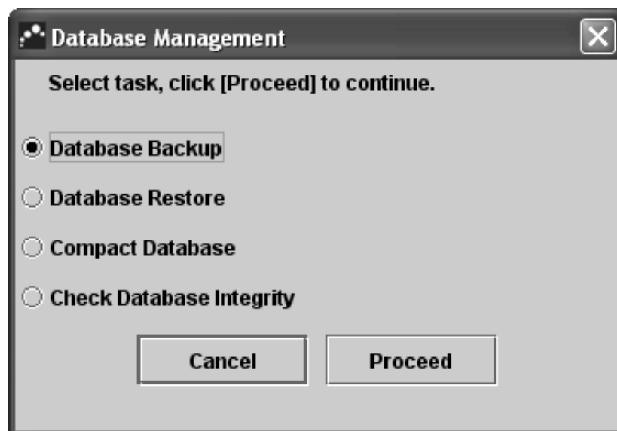

Figure 5-10. Database Management dialog box
Note: Depending on the user's privileges, you may not see all (or any) of the four options in the Database Management dialog box (Figure 5-10).
3. Click the **Proceed** button (Figure 5-10) to start performing the desired database management task.